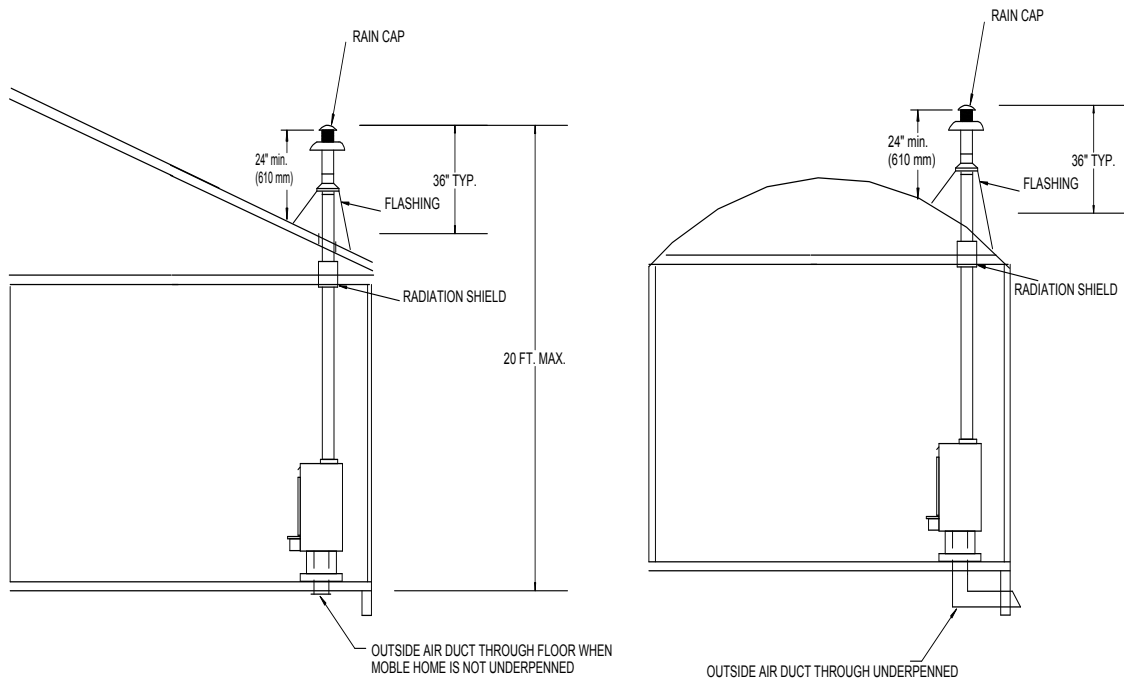

Figure 12
15. Secure the outside air duct to the floor using the four (4) #10x1 screws provided. (See Figure 12.)